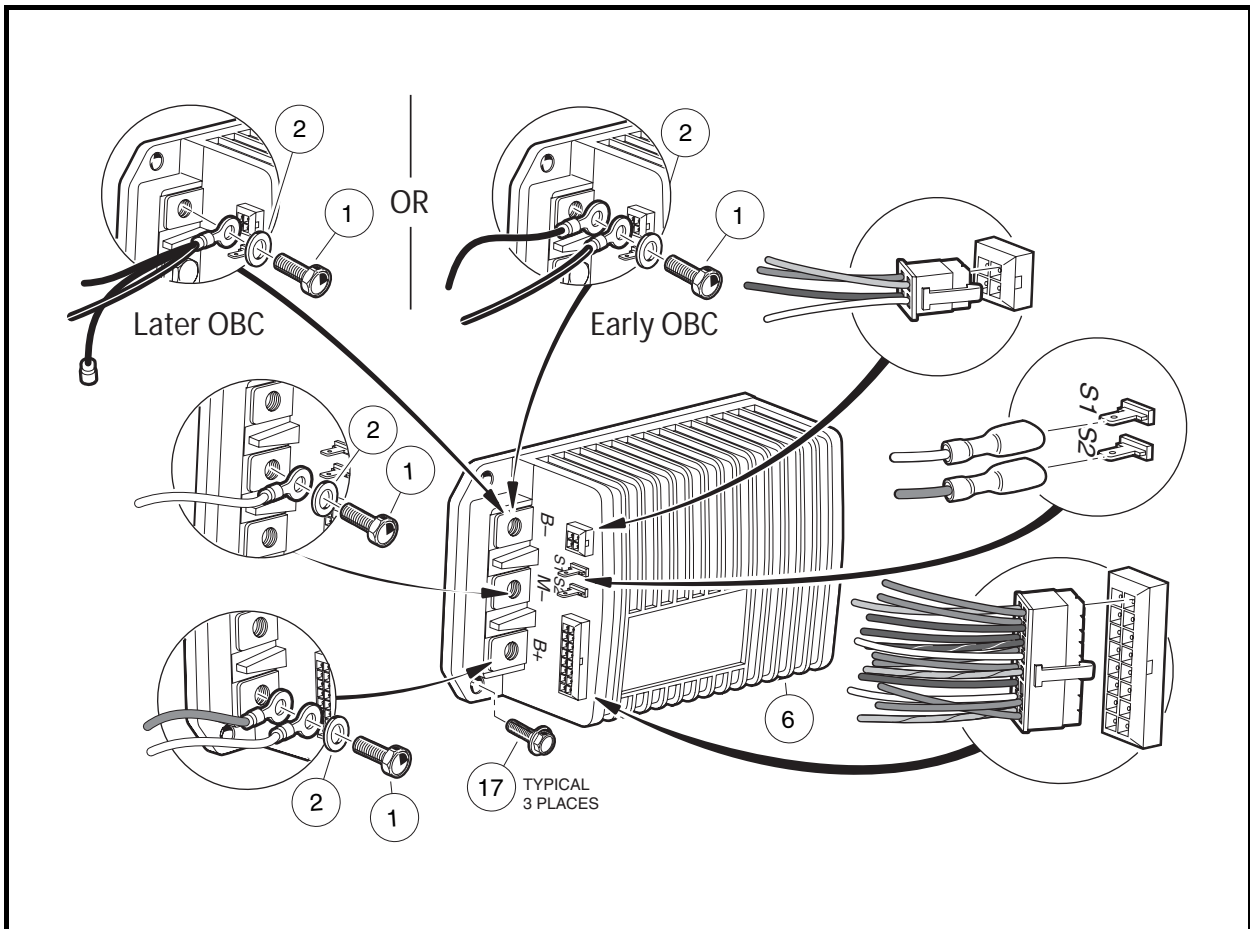

Figure 13-12 Speed Controller
2. Remove the 10-gauge red wire (4) from the positive post of battery no. 1 (**Figure 13-12, Page 13-15**).
3. Remove black 10-gauge OBC wire (5) from charger receptacle.
4. Disconnect the gray wire (9) from the receptacle at the yellow fuse holder.
5. Remove the four screws (1) that secure the charger receptacle bezel (7) to the receptacle backing plate (8) and to the vehicle body.
1. Insert the 10-gauge red wire (4) and the 18-gauge gray wire (3) through the hole in the vehicle body and the receptacle backing plate (**Figure 13-12, Page 13-15**).
3. Install the four screws (1) that secure the receptacle to the vehicle body and receptacle backing plate (8). Tighten screws to 16 in-lb (1.8 N·m).
4. Connect 18-gauge gray wire (9) to yellow fuse holder. Make sure fuse (11) is installed in fuse holder.
5. Connect the 10-gauge black wire (5) to the receptacle fuse link (6) on the charger receptacle (**Figure 13-12, Page 13-15**). Tighten to 23 in-lb (2.6 N·m).
6. Connect the 10-gauge red wire (4) to the positive post of battery no. 1.
The fuse link on the 48-volt Club Car electric vehicle should not blow under normal operating conditions; however, if the fuse link has blown, the vehicle will not charge and the fuse must be replaced. The fuse link (6) is mounted on top of the charger receptacle in the battery compartment (**Figure 13-12, Page 13-15**).
1. Remove the fuse link (6) from the charger receptacle (7) by removing the two nuts and washers used to secure the 10-gauge black wire (5) from the computer and the 10-gauge black wire to the receptacle (**Figure 13-12, Page 13-15**).
2. Remove the fuse link (6) from the charger receptacle.
3. Install nuts (2) on fuse link mounting posts and tighten to 23 in-lb (2.6 N·m) (**Figure 13-12, Page 13-15**).